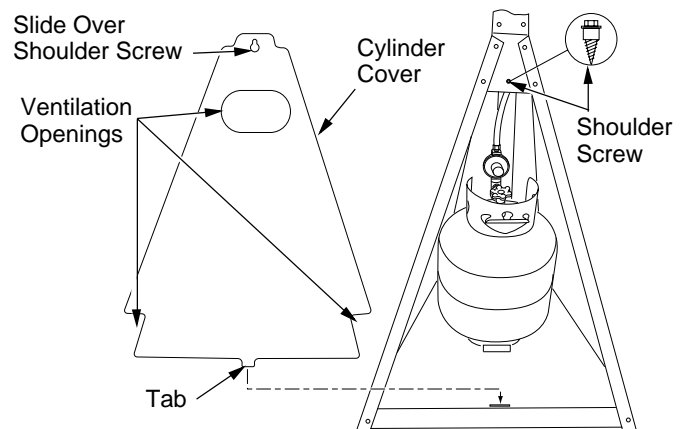

Figure 13 - Installing Cylinder Cover
17. Install knob onto gas valve stem aligning "d-flat" (see Figure 13).
18. Install shoulder screw, provided, into center hole at bottom of back plate (see Figure 13).
19. Place cylinder cover over this screw while inserting tab in base (see Figure 13).
7. Replace cylinder cover by sliding cover over shoulder screw while inserting tab in base (see Figure 13).